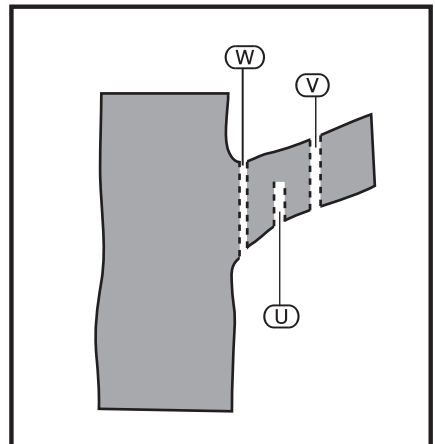

FIG.29
### 9.10 DELIMBING (FIG.29)
- Use a round file specific for the chain fitted. Observe the sharpening angle (Fig. 29 parts 2,3,5,6).
- Sharpen by filing from the inside outwards (Fig. 29 part 1) all the teeth on one side and then all the teeth on the other.
- Position the file to project 20% of its diameter above the cutter (Fig 29 part 4).